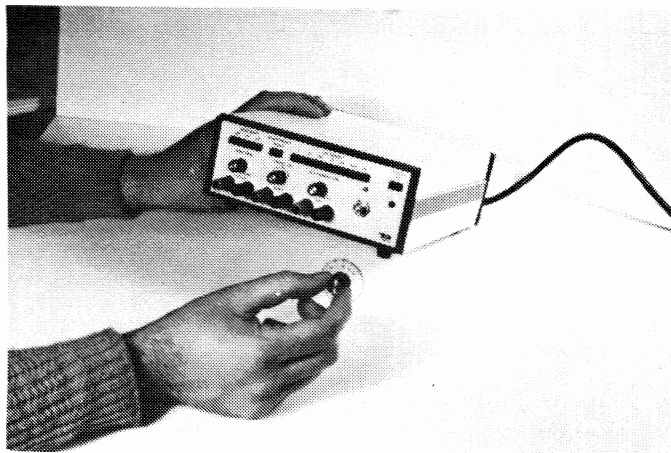

Fig. 5-5
- Loosen the two allen screws in the MULTIPLIER knob and remove the knob and dial skirt assembly from the MULTIPLIER potentiometer shaft. Figure 5-5.